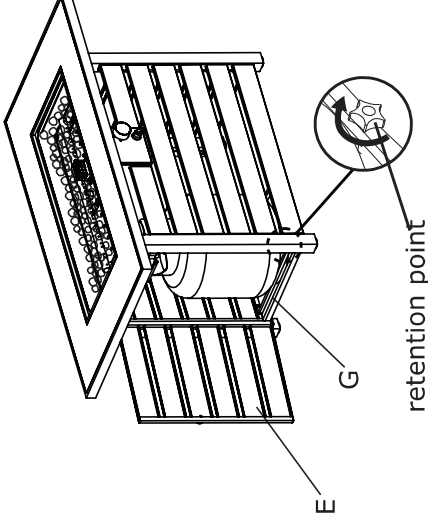

Figure 9
9. Once the firepit has cooled completely after use, carefully place the lid (A) onto the fire bowl and use the weather cover (I) to protect your fire pit from the elements (see Figure 9).